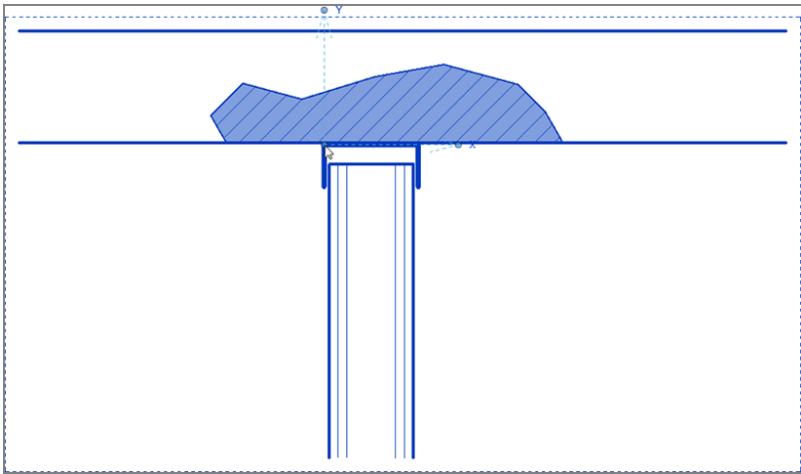

FIGURE 12.64: Move the origin to the location shown here.
4. The group has been created. You see an icon similar to the UCS icon in AutoCAD; this is your origin. Pick the middle grip, and drag it to the left corner of the track (where it meets the floor), as shown in Figure 12.64.